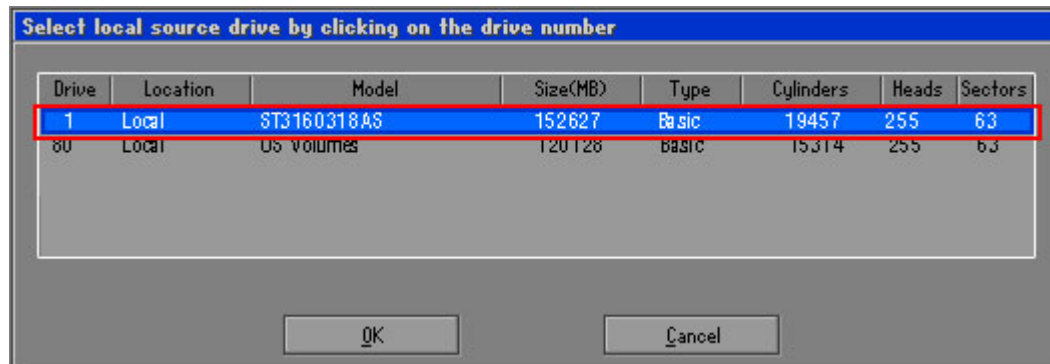

Figure B-14: Select a Local Source Drive
Step 5: Select the local source drive (Drive 1) as shown in **Figure B-14**. Then click OK.